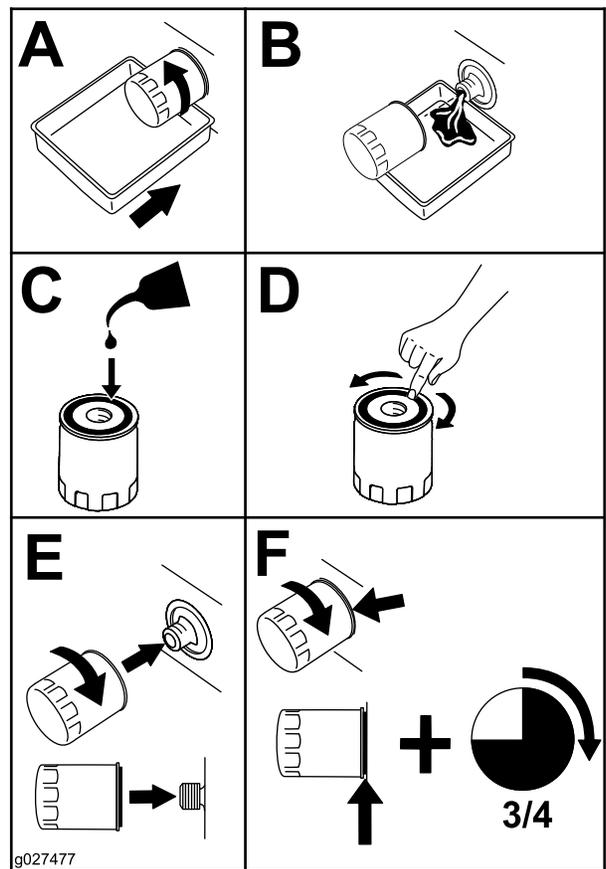

Figure 64
- Change the engine-oil filter (Figure 64).